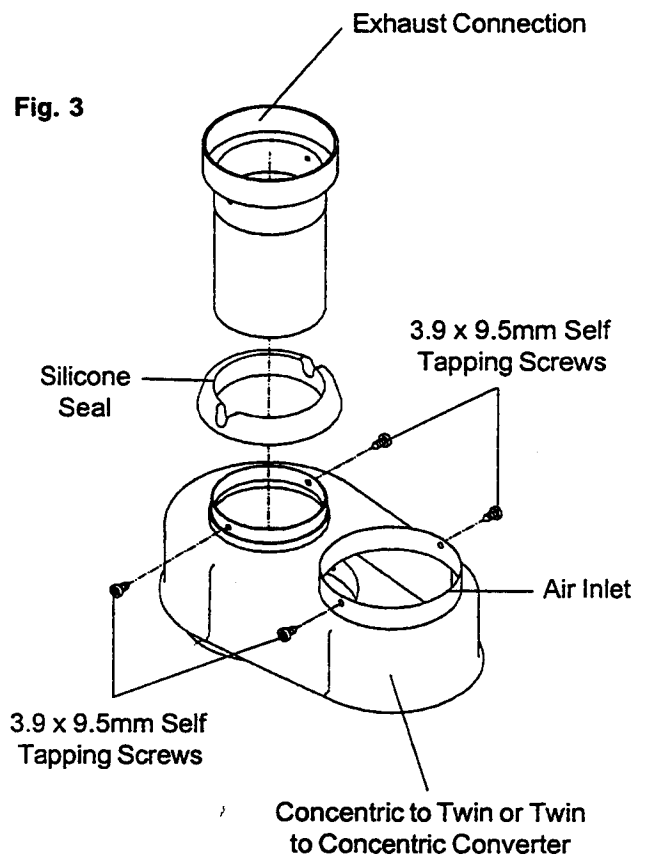

Fig. 3
2.0 Assembly of Twin Flue to Concentric Converter. (Fig. 3 & 4)